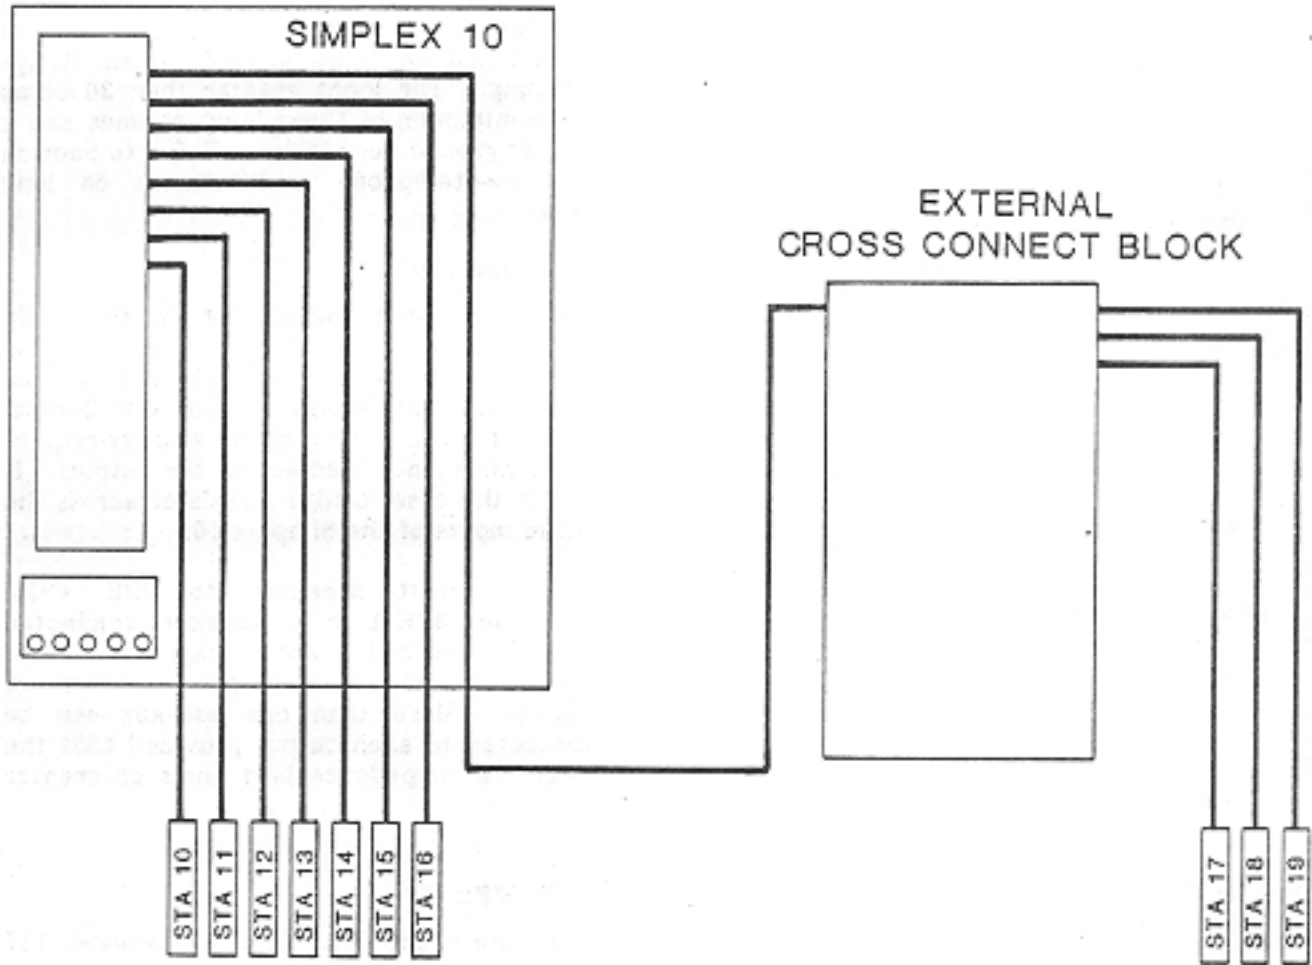

Fig. 6 -- Typical 10 Station Installation
6.04 If more than 8 stations are used, a satellite terminal must be established or some stations must be daisy-chained. Refer to Fig. 6.